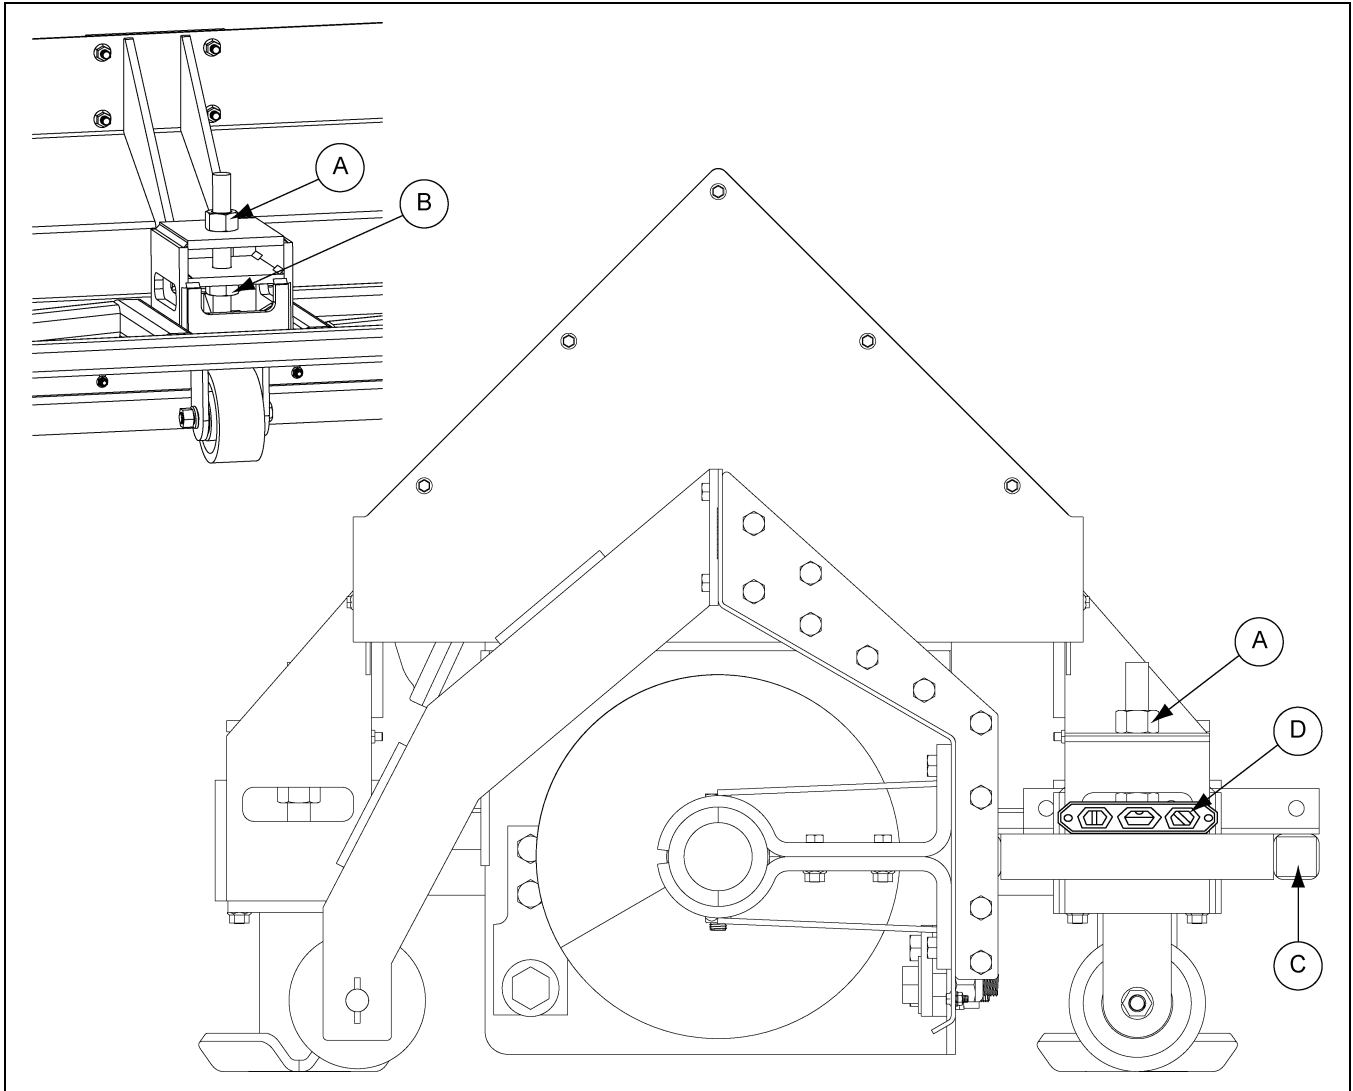

Figure 4AU
2. Set a level (D) on the sweep frame (C). (See Figure 4AU.)